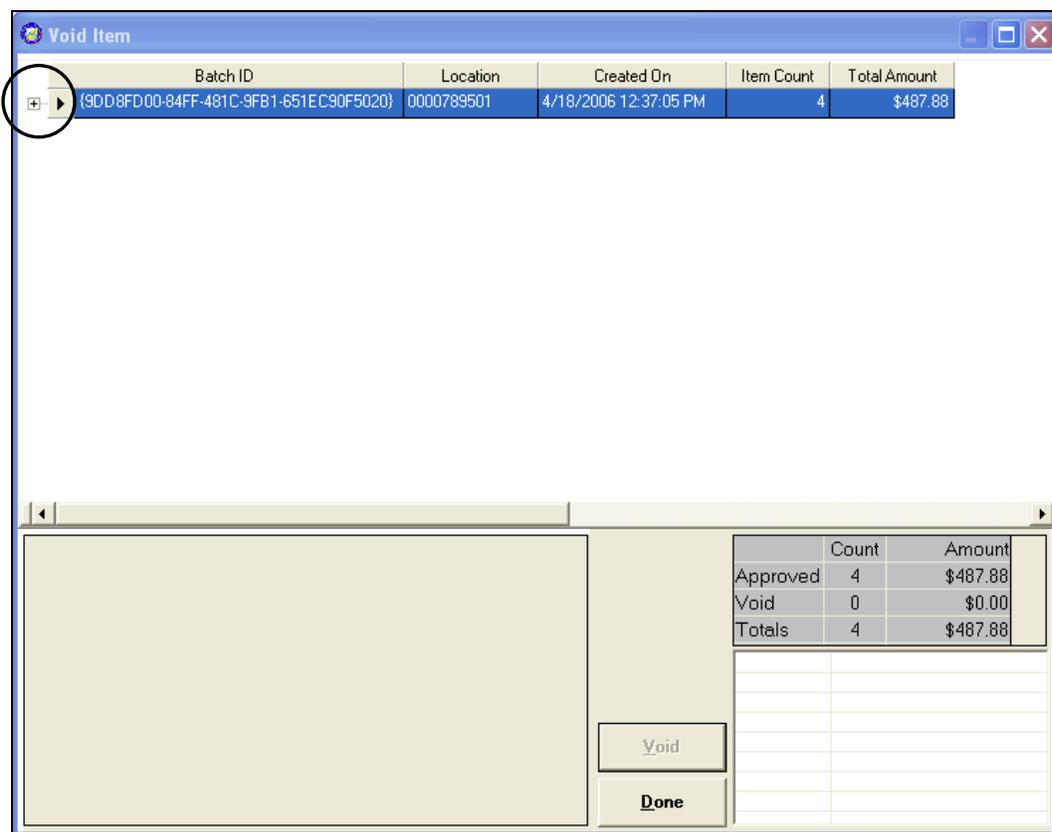

Figure 6.48
1. Click the **‘Void’** button from the main POS screen. A ‘Void Item’ window appears (Figure 6.48).